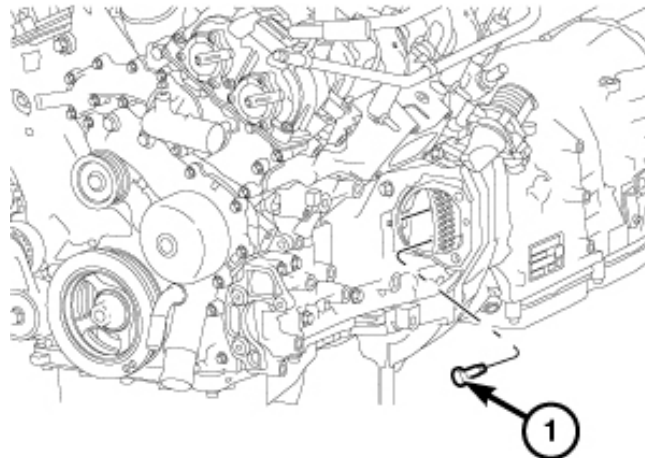

Figure 33 – Torque Converter Bolts
71. Rotate crankshaft clockwise and remove six torque converter bolts (1) through the starter pocket. (Figure 33).